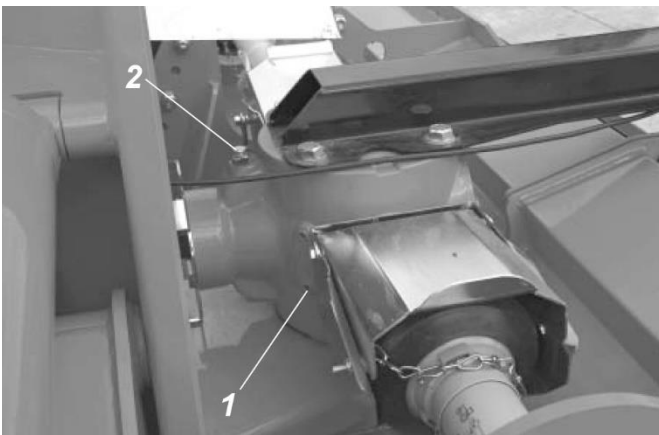

Figure 7.6
- 7.3.2.1. Check oil level in the gearbox. Oil should just come up to the lower edge of the plug hole, see Figure 7.6; if you need to top up, use the vent cap, see Figure 7.6. Use EP90 or equivalent grade oil.
- 7.3.3.3. Remove the vent cap, see Figure 7.6 (2);
- 7.3.3.4. Use a suitable pump to pump all the oil out through the plug hole, see Figure 7.6 (2), catching it in the container you procured earlier;
- 7.3.3.5. Remove the oil level cap, see Figure 7.6 (1);
- 7.3.3.7. Pour oil into the gearbox through the vent cap hole, see Figure 7.6 (2);
- 7.3.3.8. When oil starts coming out of the plug hole, see Figure 7.6 (1), you have reached the correct oil level;
- 7.3.3.9. Refit the plug and cap, see Figure 7.6 (1 and 2).